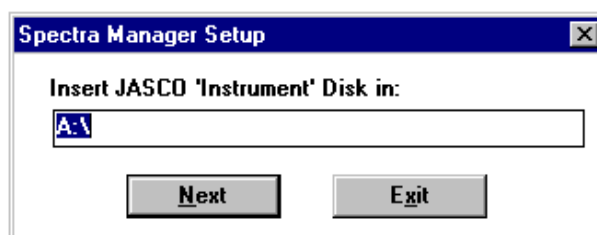

Fig. 9.10 [Spectra Manager] Setup dialog box
- (3) Click the <Yes> button. The dialog box shown in Fig. 9.10 appears.